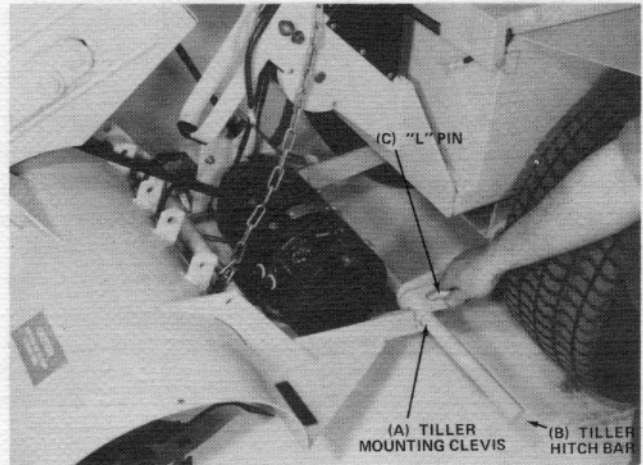
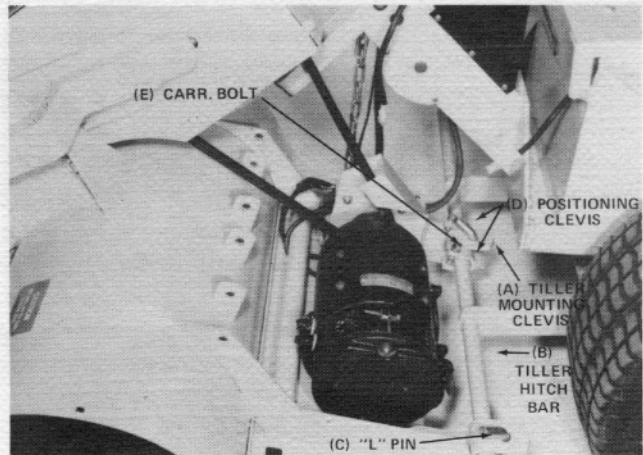

FIG. 8 – TILLER CENTER MOUNTING
FIG. 9 – TILLER RIGHT HAND MOUNTING
The tiller can be attached to the hitch bar to provide tilling to the left, right or center of the tractor. With this flexibility, most row crop cultivating may be carried out. Refer to the Installation section, page 5, Figs. 8 & 9.
Refer to Figs. 8 & 9
Block up the front of the tiller so that each mounting clevis (A) is at about the same height as the tiller hitch bar (B). Drive the tractor at the slowest (LL) reverse speed into the tiller so that each clevis engages the hitch bar at the same time. Mounting may be made so tilling can be performed to the left, right (Fig. 9) or center of the tractor (Fig. 8). Drop the "L" shaped clevis pins (C) through the clevis holes and secure each one with a hair-pin cotter. When attaching tiller to right or left position, place one positioning clevis (D) on each side of tiller clevis, at center of hitch bar, and secure by tightening carriage bolts (E).